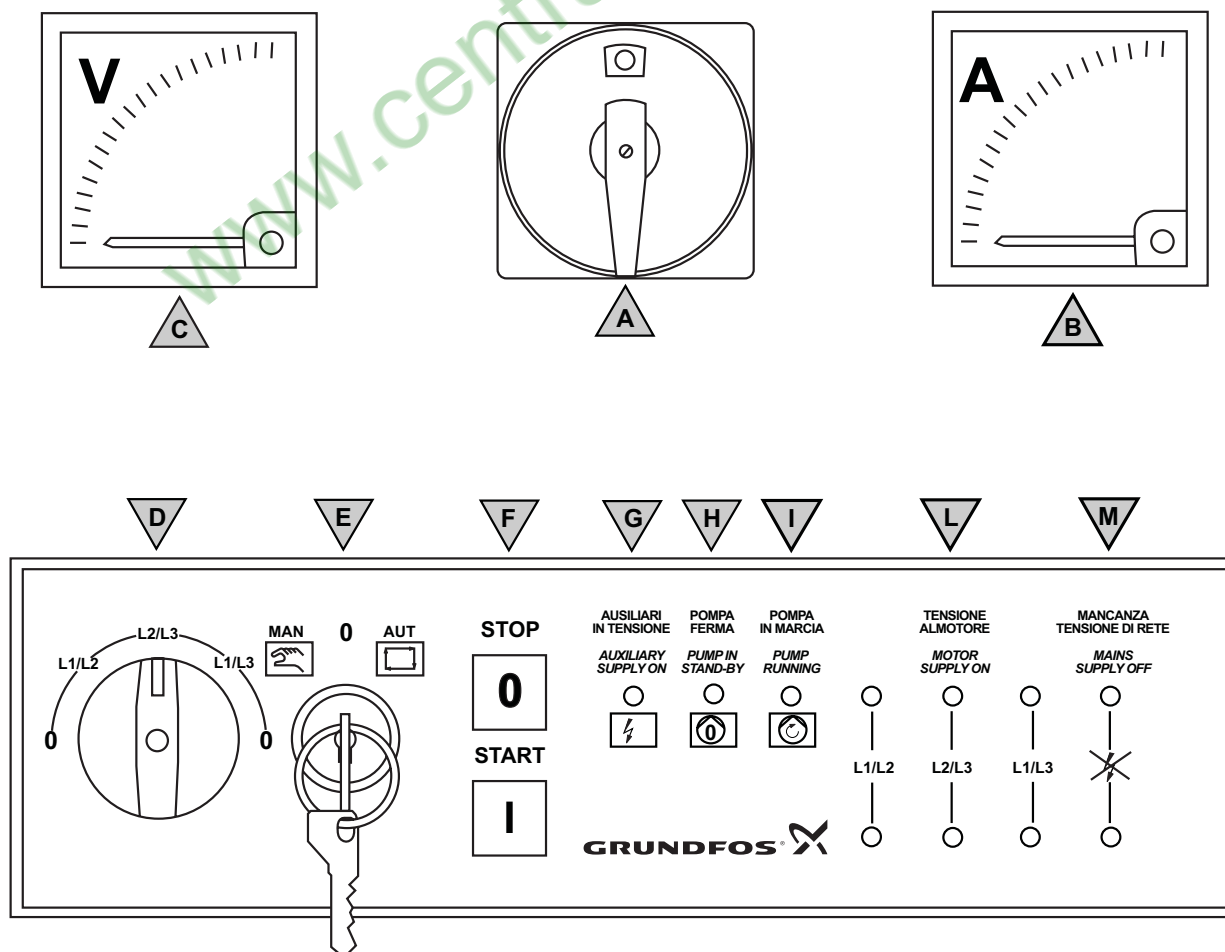

Fig. 6 Front door of control panel of duty pump
The duty pumps are controlled via separate control panels allowing easy reading of gauges and signals from their front doors. The starting method for motors with rated power up to and including 7.5 kW is direct-on-line (DOL); in order to avoid line overload, stress on rotating parts and wear of system components the starting method is star-delta (SD) for motors with power ratings from 11 kW and upwards. Other starting methods, such as DOL instead of SD, are available as options. The table below lists the components and functions available in the control panels. Ref. refers to Fig. 6 showing the front door of a control panel of a duty pump which is designed in compliance with UNI 9490 requirements.